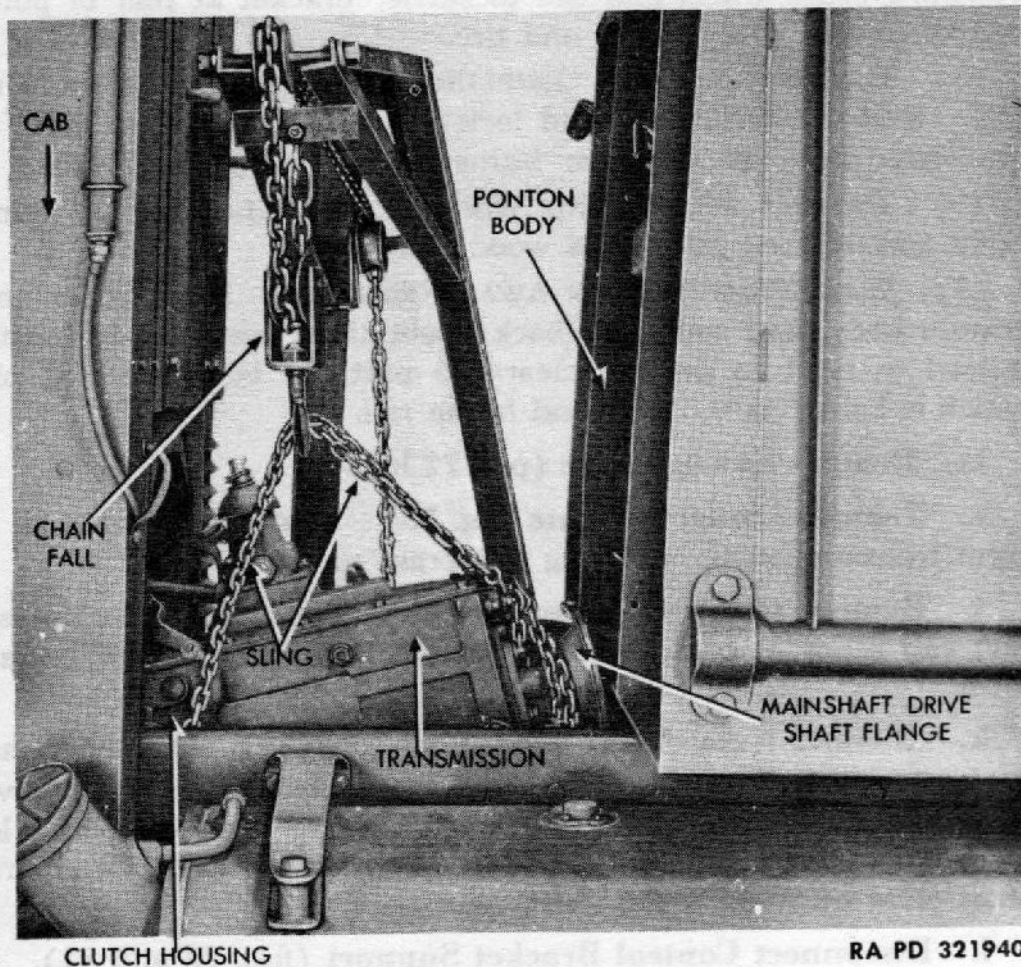

Figure 90 — Removing Transmission
m. Lift Out Transmission (fig. 90). Wrap a length of chain around the front and rear of the transmission. Using an overhead hoist, take up weight of unit. Pry transmission away from clutch housing and move it back about eight inches. Lower unit to ground between chassis frame side rails. Slide transmission out from under vehicle.
a. Position Transmission to Clutch Bell Housing (fig. 90). Slide transmission under vehicle. Attach rope sling, and raise to position about a foot behind bell housing. Push transmission forward to position against bell housing. Do not allow main drive gear to drag